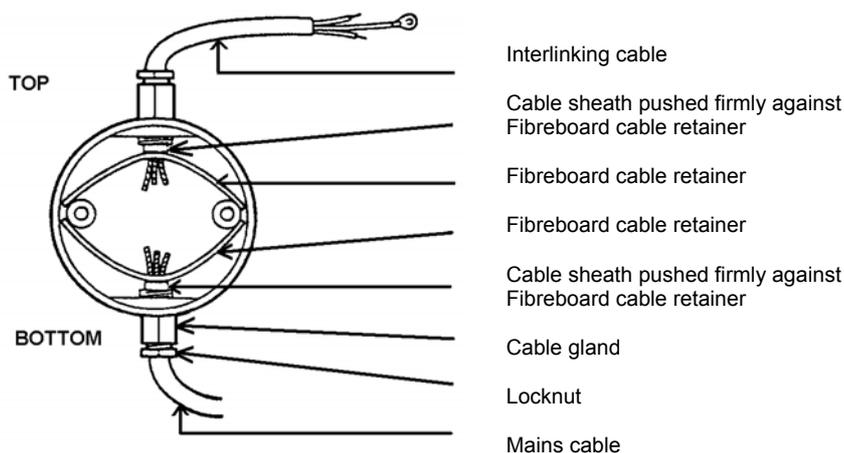

Fig. 3
9. Fit the cable-retaining fibreboards as shown in Fig.3 by pulling the cable back through the gland and carefully positioning the fibreboards over the cable conductors.
13. Fit the two remaining cable retaining fibreboards as shown in Figure 3, by pulling the cable back through the gland and carefully fitting the fibreboards over the cable conductors